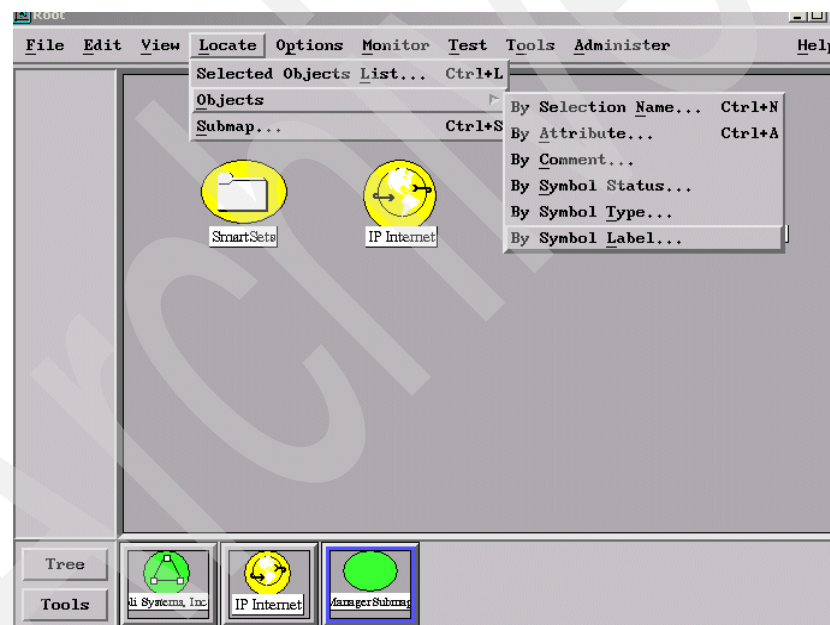

Figure 13-12 Locate function
1. In the NetView console select **Locate** → **Objects** → **By Symbol Label** as shown in Figure 13-12.